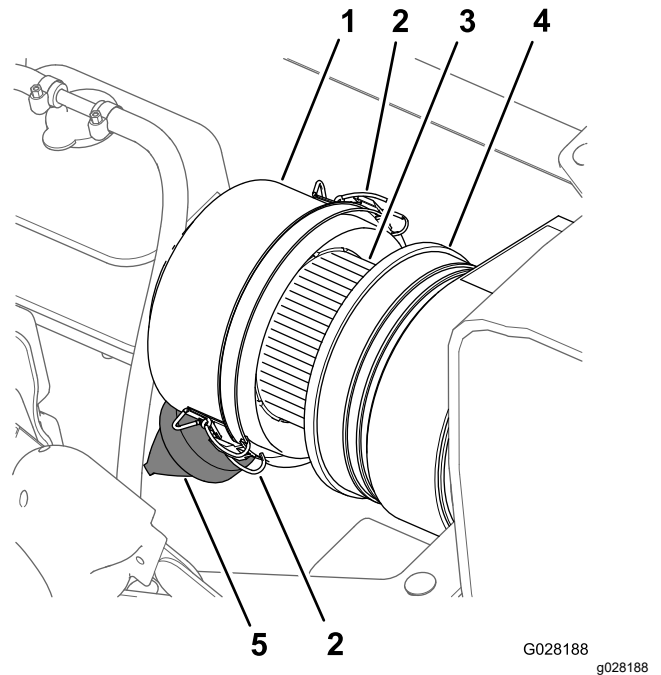
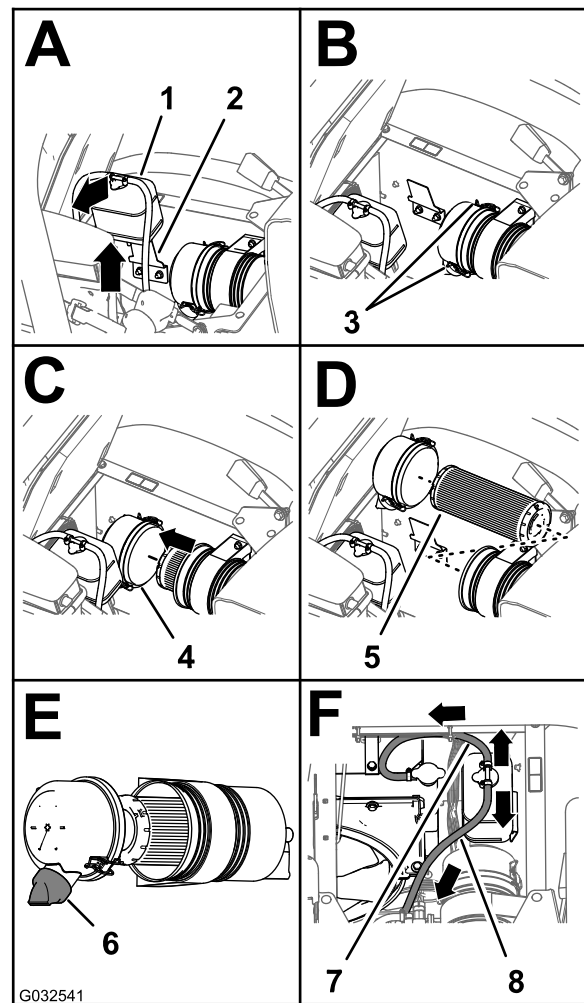

Figure 73
Figure 74
3. Clean the dust cap and air-cleaner body (Figure 73).
4. Check the air-cleaner body for damage that could cause an air leak (Figure 73).
5. Squeeze the dust valve to clear it of dirt, dust, and debris (Figure 73).
7. Check the air-filter element for excessive accumulation of dust, dirt, and debris (Figure 73).
8. Install the dust cap onto the air-cleaner body and secure the cap with the 2 latches (Figure 73).
2. Clean the dust cap and air-cleaner body (Figure 73).
3. Lift the coolant-overflow tank up and off the tank-support bracket (Figure 74).
4. Loosen the 2 latches that secure the dust cap to the air-cleaner body (Figure 74).
6. Clean the inside of the dust cap, air-cleaner body, and dust valve with a damp rag (Figure 73 and Figure 74).
7. Insert the air-filter element into the air-cleaner body (Figure 74).
8. Install the cover onto the air-cleaner body and secure the cover with the 2 latches (Figure 74).
Note: Ensure that the dust valve is aligned between the 5 to 7 o'clock position when viewed from the end (Figure 74).
9. Align the coolant-overflow tank to the tank-support bracket and seat the tank firmly (Figure 74).
Important: Ensure that the pressure-relief hose is routed forward and down, and the tank-vent hose is routed rearward as shown in Figure 74.